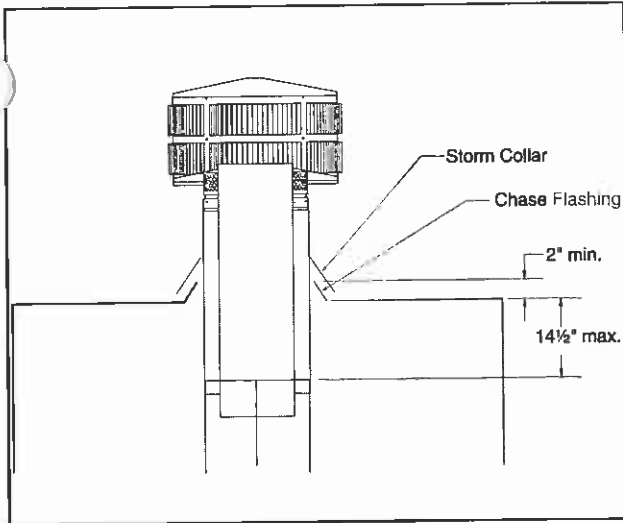

Figure 24 - Installing a TR11T Round Telescoping Termination Cap
- b. For installations utilizing a TR11T telescoping round termination cap, the uppermost chimney section must be below the top of the chase top, but not more than 14½" below the top of the chase top flashing collar. See Figure 24.